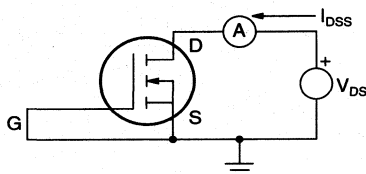

Figure 5: N-Channel I_{dss} Measurement
- C. I_{DSS} – The zero gate voltage drain current or offstate leakage current. It is determined by applying specified voltage from drain to source (with gate shorted to source) and measuring the resulting current. (See Figure 5 for the measurement circuit.)